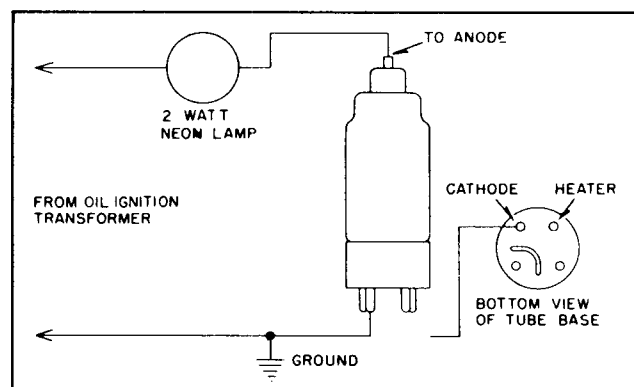

FIG. 10. Gas Test for Thyatron Tube.
(1) Remove tube from control and allow to cool for at least 30 minutes.
(2) Test tube in Westinghouse tube tester for gas.
(3) If tester is not available, mount vertically with anode up and connect as shown in Fig. 10.